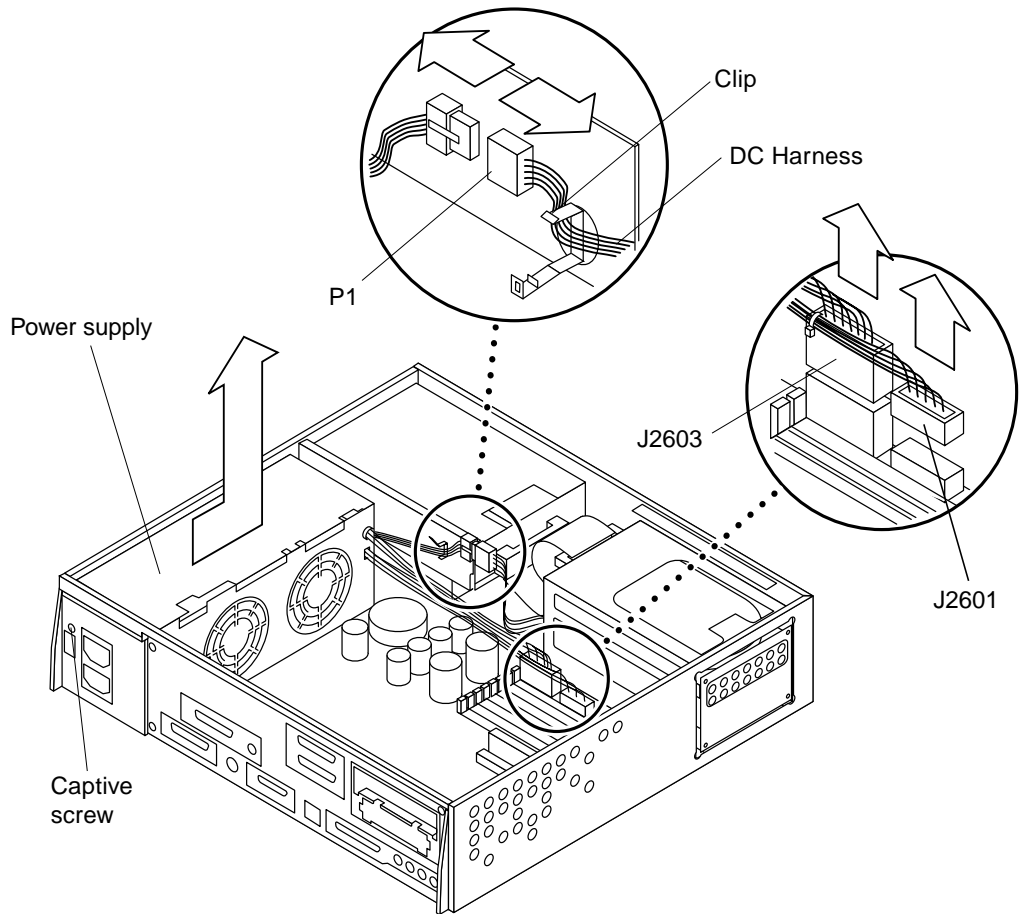

FIGURE 8-1 Removing the Power Supply
5. Disconnect the power supply as follows FIGURE 8-1: